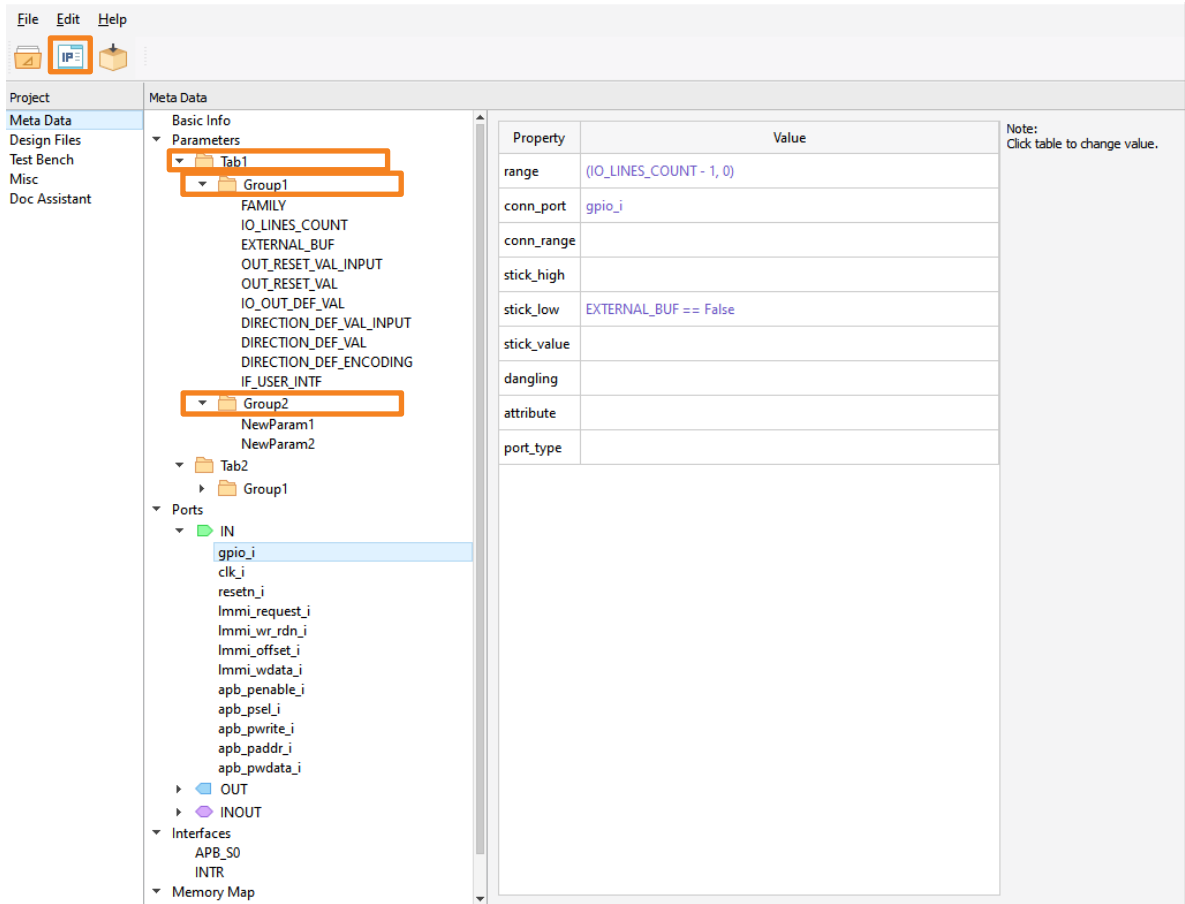
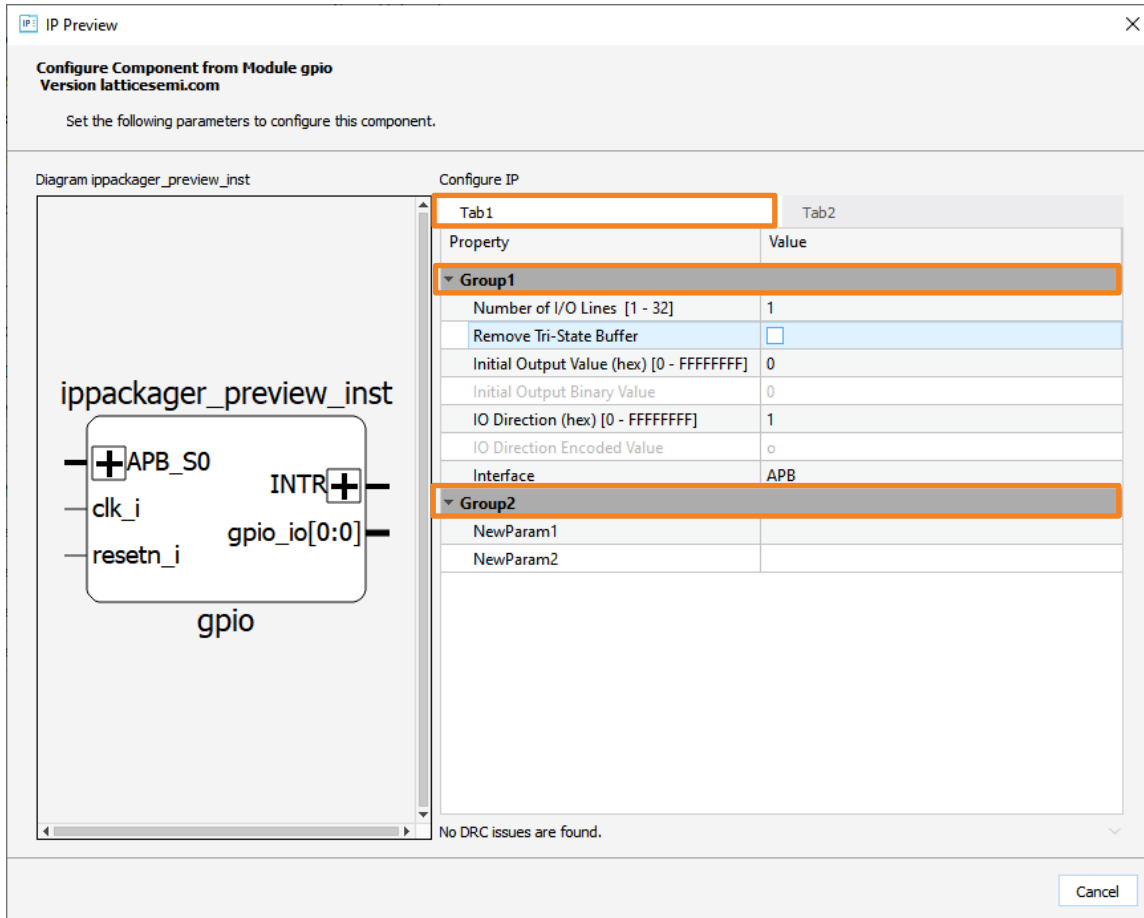

Figure 3.11. Two-Level Hierarchy to Categorize Parameters
Figure 3.12. IP Preview Showing Two-level Hierarchy in Parameters
- Two-level hierarchy (Tab/Group) is used to categorize the parameters. Click on the **IP Preview** icon from the toolbar (Figure 3.11), you can see the hierarchy relations (Figure 3.12).